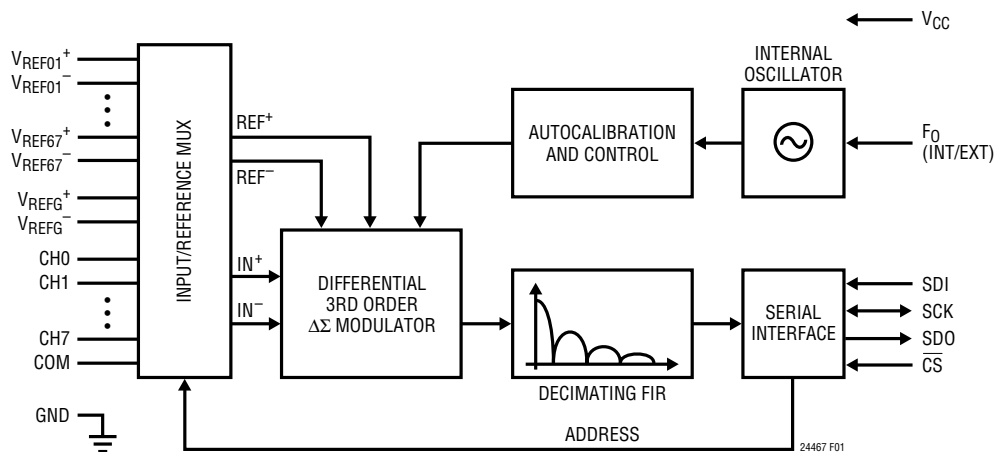
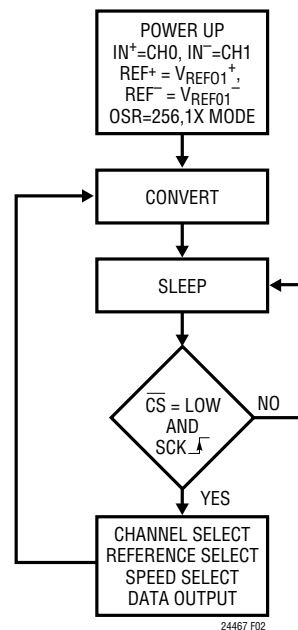

Figure 1. Functional Block Diagram
Figure 2. LTC2446/LTC2447 State Transition Diagram
The LTC2446/LTC2447 are multichannel, multireference high speed, delta-sigma analog-to-digital converters with an easy to use 3- or 4-wire serial interface (see Figure 1). Their operation is made up of three states. The converter operating cycle begins with the conversion, followed by the low power sleep state and ends with the data output/input (see Figure 2). The 4-wire interface consists of serial data input (SDI), serial data output (SDO), serial clock (SCK) and chip select (CS). The interface, timing, operation cycle and data out format is compatible with Linear's entire family of  $\Delta\Sigma$  converters.